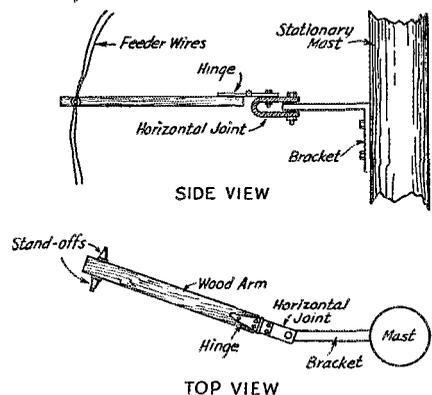

Fig. 2—Arrangement used by W6EPM to prevent tangling of open-wire feeders when used with rotatable antenna.
**H**AROLD ULMER, W6EPM, author of the article on a rotatable antenna with open-wire feeders and a delta-matching system which appeared in *QST* for February, describes a device he has worked out to prevent tangling of the feeder wires as the antenna is rotated. A sketch is shown in Fig. 2. An iron bracket made from a piece of  $\frac{1}{4}$ -inch by 2-inch strip is fastened to the pole with lag screws. This bracket is about 9 inches long on each side. A U-shaped piece of the same material is loosely bolted to the outer end of the bracket to form a joint permitting horizontal motion. One side of a large hinge is bolted to the U-shaped piece, and to the other end a  $3\frac{1}{2}$ -foot length of "1 by 4" is fastened. This arm is fitted with a pair of stand-off insulators to which the feeders are attached. The bracket is fastened about halfway up the mast.